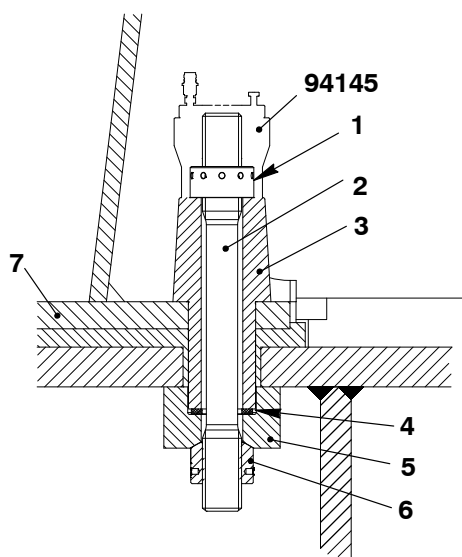

Fig. 1
In the area of the thrust bearing, the bedplate (7, Fig.1) and the foundation must be attached with foundation bolts (2) and the long bushes (3).
- 1) To loosen and apply tension to the foundation bolts (2), use the pre-tensioning jack (94145, Fig.1).